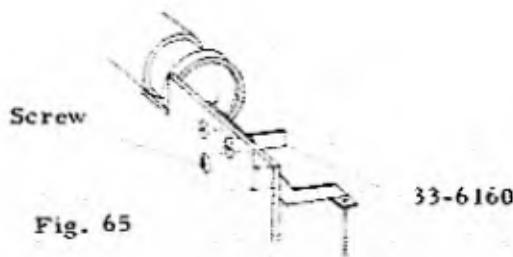

Fig. 65
The adjustment can be made with Switch (M) Lever. (33-6160). See Fig. 65.